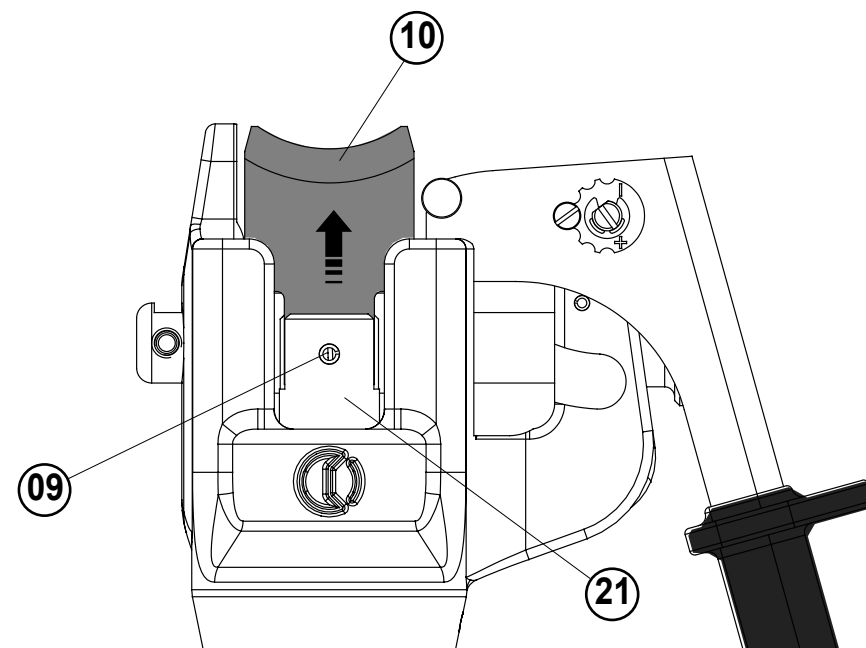

FIG. 7
3.4) Blade changing (Ref. to Fig. 7)